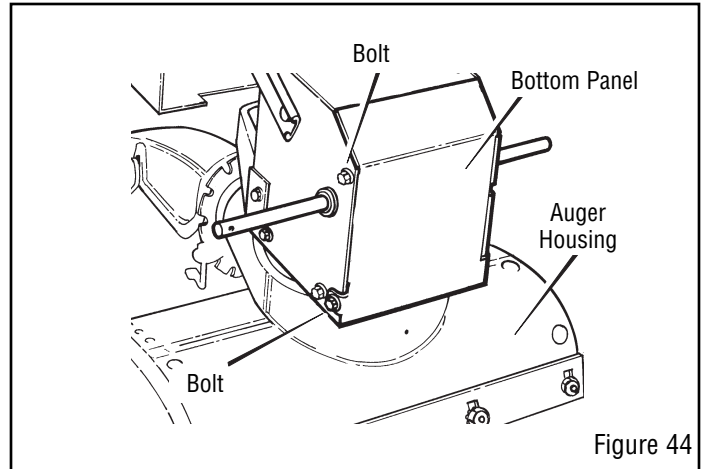

Figure 44
1. Remove the gas from the gas tank. Stand the snowthrower up on the front end of the **auger housing** (see Figure 44).
3. Loosen the **bolts** on each side of the **bottom panel** (see Figure 44).
5. Install the **bottom panel** (see Figure 44).
1. Remove the gas from the gas tank. Stand the snowthrower up on the front end of the **auger housing** (4) (see Figure 44).